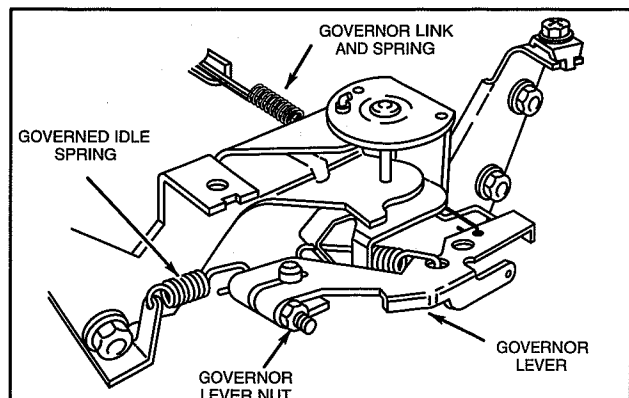

Fig. 7 – Remove Governor Lever
- a. Remove governor lever from shaft, Fig. 7.